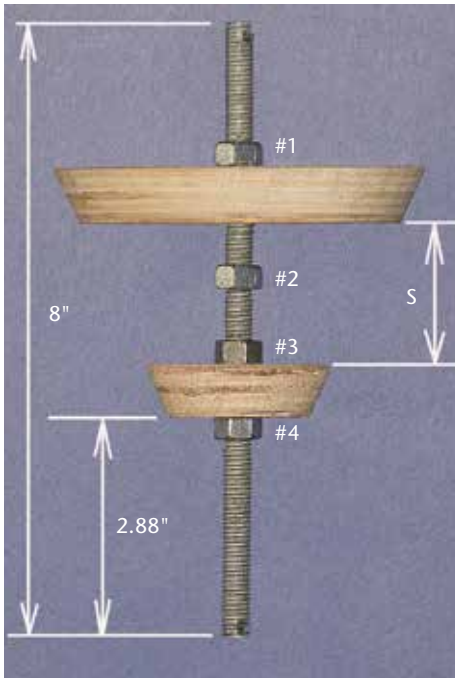

Figure 7.
10. Assemble the adjustable conical core (Figure 7). Cut threaded rod 8" (20cm) long and drill $\frac{1}{8}$ " (3mm) holes at each end of the rod for a nail to be inserted. The nail will be used to hold the rod and prevent it from turning when tightening the nuts. Position the two plywood disks as shown and firmly tighten nuts 3 and 4 to hold the smaller disk in place. Turn nut 1 against the large disk to position it to achieve S.